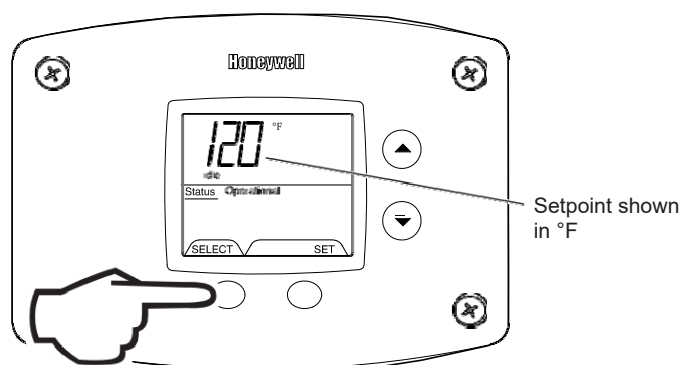

Fig. 36
5. Pressing 'SELECT' button will return display to setpoint in format selected (°F or °C) immediately (Fig. 36).